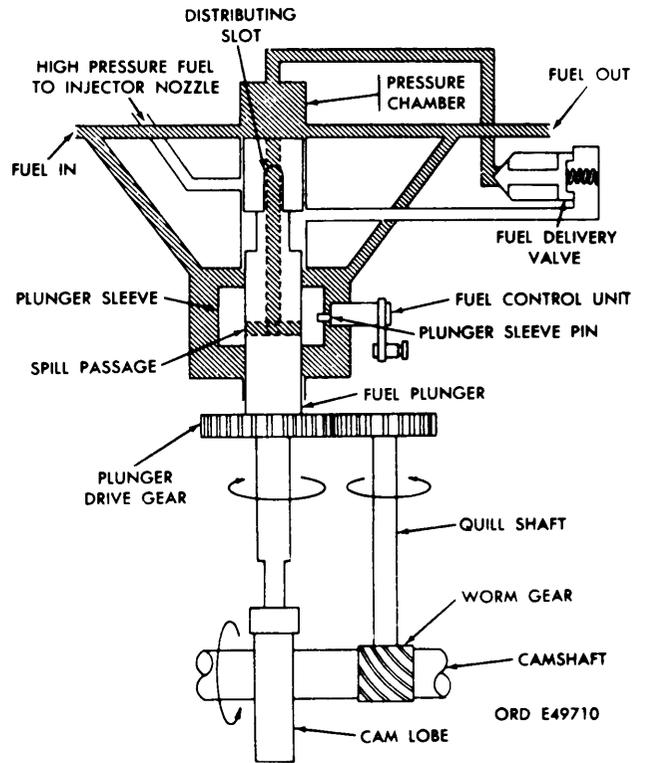
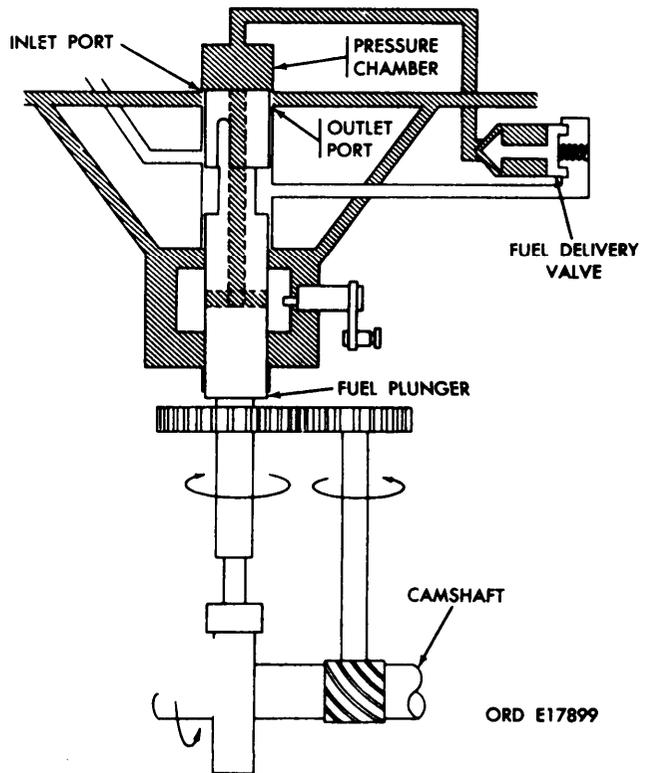
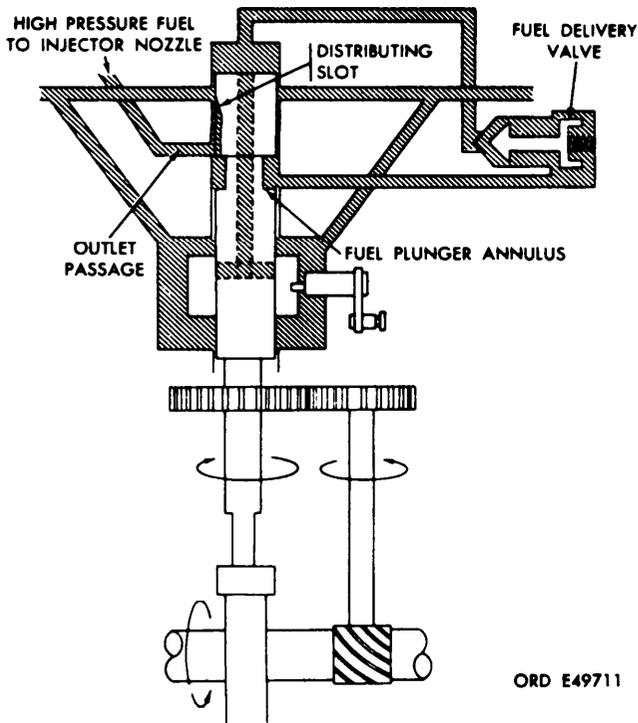
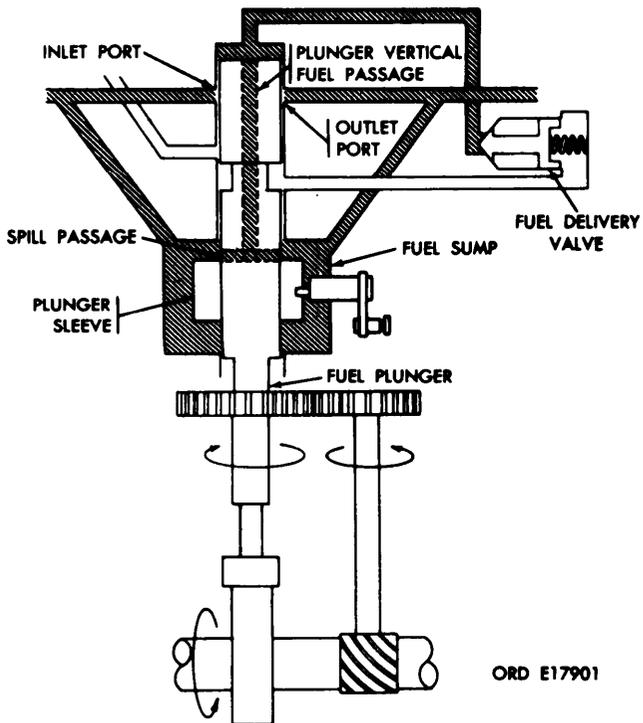

Figure 1-24. Fuel intake flow diagram.
Figure 1-25. Beginning of fuel delivery flow diagram.
Figure 1-26. Fuel delivery flow diagram.
Figure 1-27. End of fuel delivery flow diagram.
b. At the intake phase (fig. 1-24), the fuel plunger is on the base circle of the camshaft, the fuel plunger is down, and fuel enters and fills the pressure chamber. As the camshaft rotates, the fuel plunger closes off the inlet and outlet ports and is at the beginning of delivery phase (fig. 1-25). The fuel in the pressure chamber is pressurized and starts to open the fuel delivery valve. At the delivery phase (fig. 1-26) the fuel is under sufficient pressure to fully open the fuel delivery valve. This highly pressurized fuel then flows around the fuel plunger annulus, through the distributing slot, which is now aligned with one of the six outlet passages, and out the outlet passage to the injector nozzle. At the end of delivery phase (fig. 1-27), after sufficient upward movement of the fuel plunger, the spill passages passes over the edge of the plunger sleeve. The fuel pressure then escapes down the plunger vertical fuel passage into the fuel sump which is at supply pressure. The reduction of pressure causes the fuel delivery valve to close.
1-24. Fuel Metering and Control. *a.* The quantity of fuel delivered per stroke is governed by variation in the position of the plunger sleeve (fig. 1-27) with relation to the fixed port closing position (the point at which the top of the fuel plunger covers the fuel